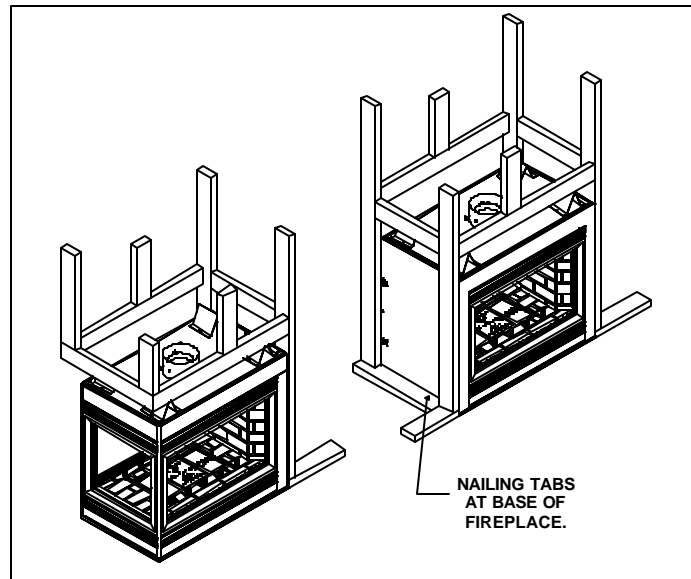

**Figure 7. Vent Termination**
**WARNING: MAJOR U.S. BUILDING CODES SPECIFY MINIMUM CHIMNEY AND/OR VENT HEIGHT ABOVE THE ROOF TOP. THESE MINIMUM HEIGHTS ARE NECESSARY IN THE INTEREST OF SAFETY. FIGURE 7 AND TABLE SHOW MINIMUM HEIGHTS, PROVIDED THE TERMINATION CAP IS AT LEAST 8- FEET FROM A VERTICAL WALL.**